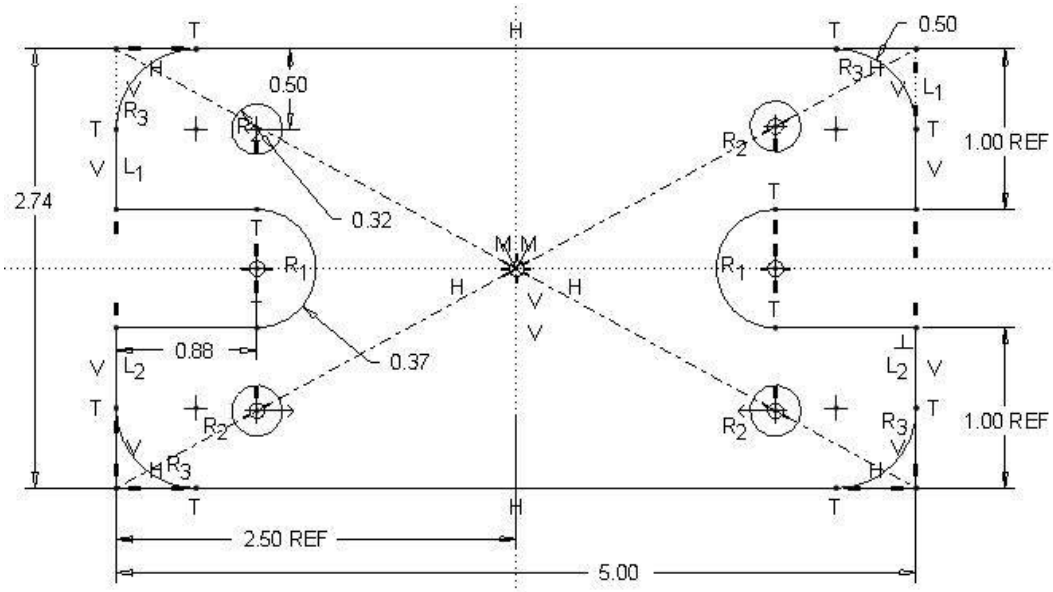

Figure 3-75 Problem 6
- 3.6 Draw the front view of cover plate6 (Figure 3-75). **Design Intent**—The plate is symmetric about its center in both directions.